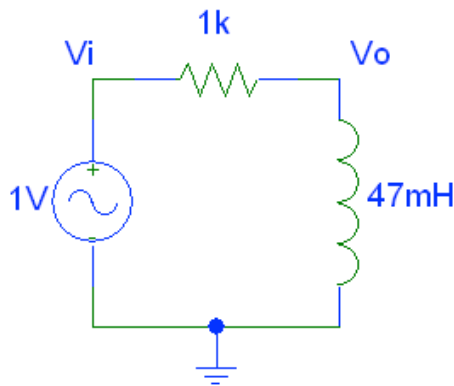

Figure 3: First RL Network
1. Record the amplitude of the output voltage for the circuit shown in Figure 3, where $v_i(t) = \cos(\omega t)$, and f is the following three input voltage frequencies.